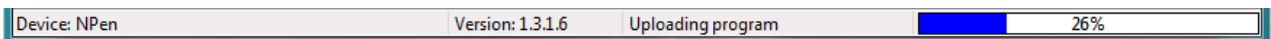

Fig. 23 Uploading process.
- The bottom bar indicates the upload progress (Fig. 23).